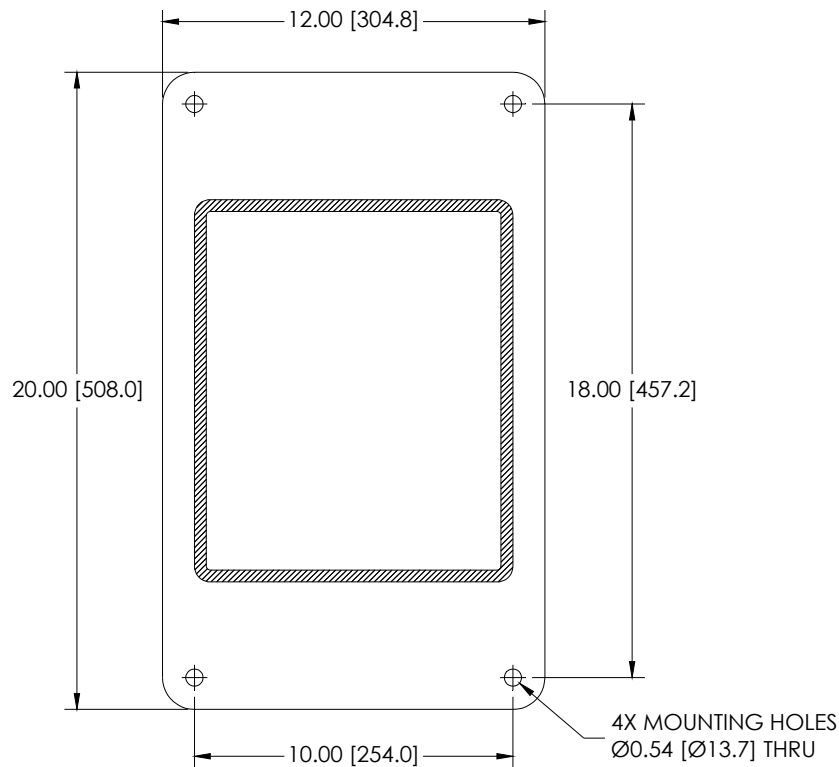
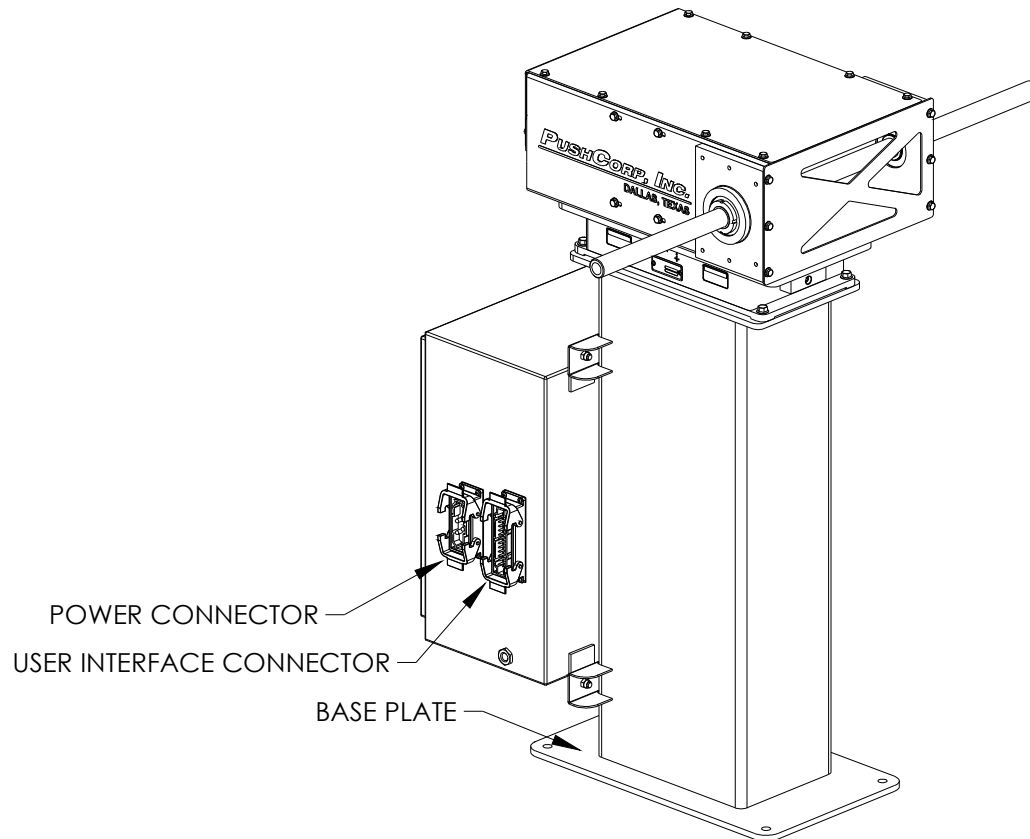
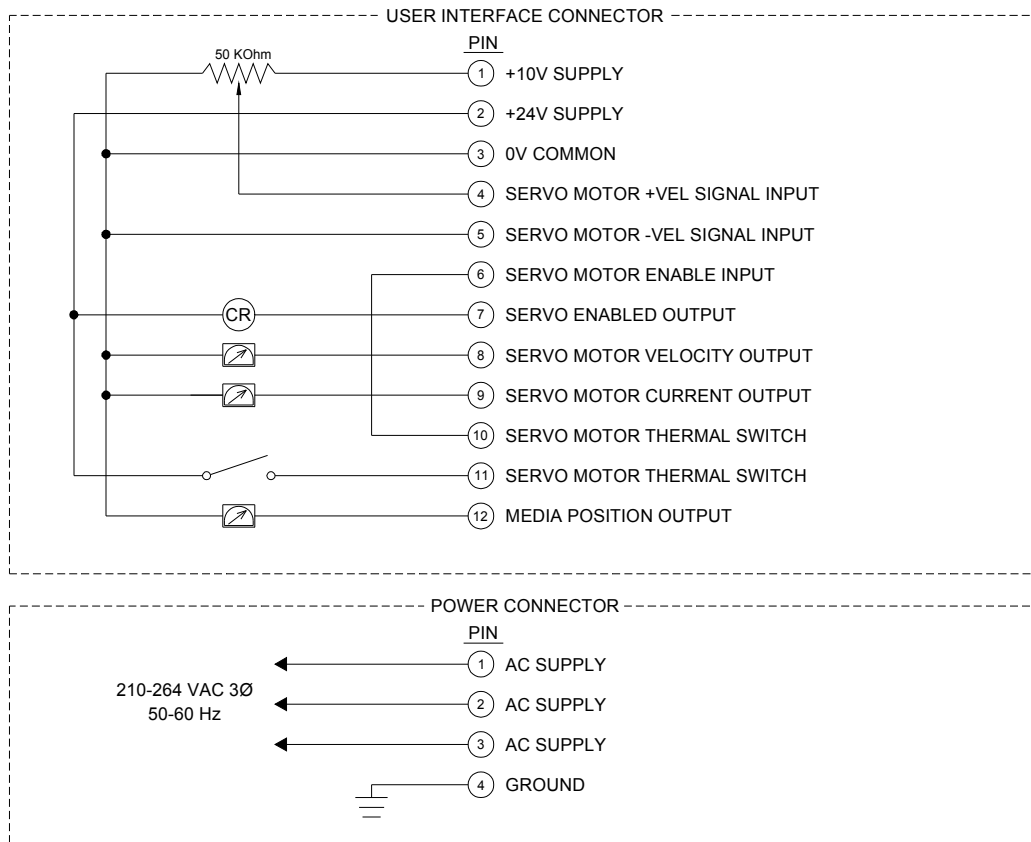

Figure 1. SFS81 Base Plate mounting holes
Figure 2. SFS81 Finishing Stand
Figure 3. SFS81 Typical User Interface Schematic
The SFS81 Servo Finishing Stand is secured by four (4) fasteners passing through mounting holes located in the Base Plate (See Figure 2). The Base Plate mounting hole locations are shown in Figure 1. The SFS81 must be securely mounted to keep the unit from moving during operation, and must be mounted level to achieve the desired force output. A spirit level can be placed on the top of the Finishing Stand and shims can be inserted under the Base Plate as required.
The SFS81 requires 210-264 VAC 3-Phase 50-60 Hz. power to operate. This should be supplied to the Power Connector on the Control Box. The electrical connection for servo motor speed control and AFD position feedback pass through the User Interface Connector. Figure 3 shows a typical manual interface schematic, which could be implemented. The unit is supplied with plugs for both the Power Connector and User Interface Connector. The locations of the Power and User Interface Connectors on the Control Box are shown in Figure 2.
The circuit diagram in Figure 3 shows the SFS81 wired for stand-alone panel operation. **All digital I/O on the SFS81 is designed for 24 VDC control voltages.**
The Media speed is controlled via a +/- 10 VDC analog signal applied to Pins 4 and 5. Providing a positive analog voltage will rotate the Output Shafts in a downward direction when facing the unit from the front. The SFS81 is normally rotated in this direction to direct dust to the floor or into a user supplied dust collection system. The analog input is a true floating differential signal connected directly to the servo amplifier. The circuit shown in Figure 3 is an example of how the Output Shaft speed may be controlled with a simple panel mount linear potentiometer. If remote robot teach pendent adjustment is desired, the potentiometer would be replaced with an analog signal from a robot analog output card connected directly to Pins 4 and 5.
Pin 6, shown in Figure 3 provides the servo amplifier enable signal. Connecting Pin 6 to Signal Ground on Pin 3 enables the servo amplifier and applies voltage to the servo motor. Disconnecting Pin 6 from Signal Ground (Pin 3) disables the amplifier.
The circuit in Figure 3 demonstrates the recommended practice of connecting the Servo Motor Enable Input signal in series with the Servo Motor Thermal Switch. The Servo
The Media rotational speed is controlled via a +/- 10 VDC analog signal applied to Pins 4 and 5 of the User Interface Connector. The user must scale the command voltage to the servo motor amplifier from 0 to 10 Volts, which equates to a Media rotational speed of 0 to 3000 rpm. The user is responsible for determining the maximum speed for their Media. The SFS81 is factory limited to operate at a maximum Output Shaft rotational speed of 3000 rpm. Figure 3 shows a simple circuit using a linear potentiometer to control Media speed, however most installations will require a remote voltage command to vary the rotational speed and control the acceleration/deceleration of the Media.